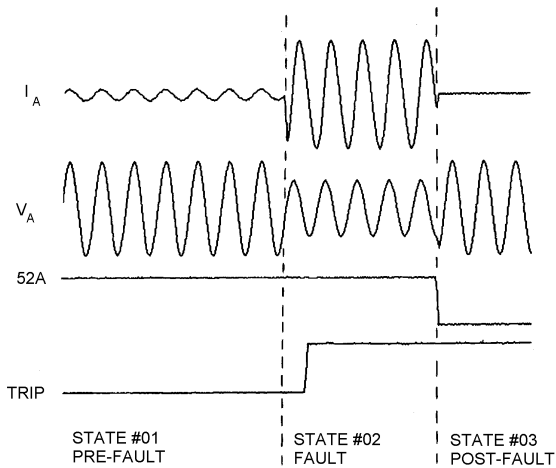

Figure 2 Example of Pre-Fault, Fault, and Post-Fault States
- **Testing with States.** Define a test as a sequence of up to 255 states (three show in *Figure 2*). Link states together to create a test file. Run the tests from a menu or directly from the operating system prompt. View test results through a Results window, or examine the test results by reading automatically created ASCII files.